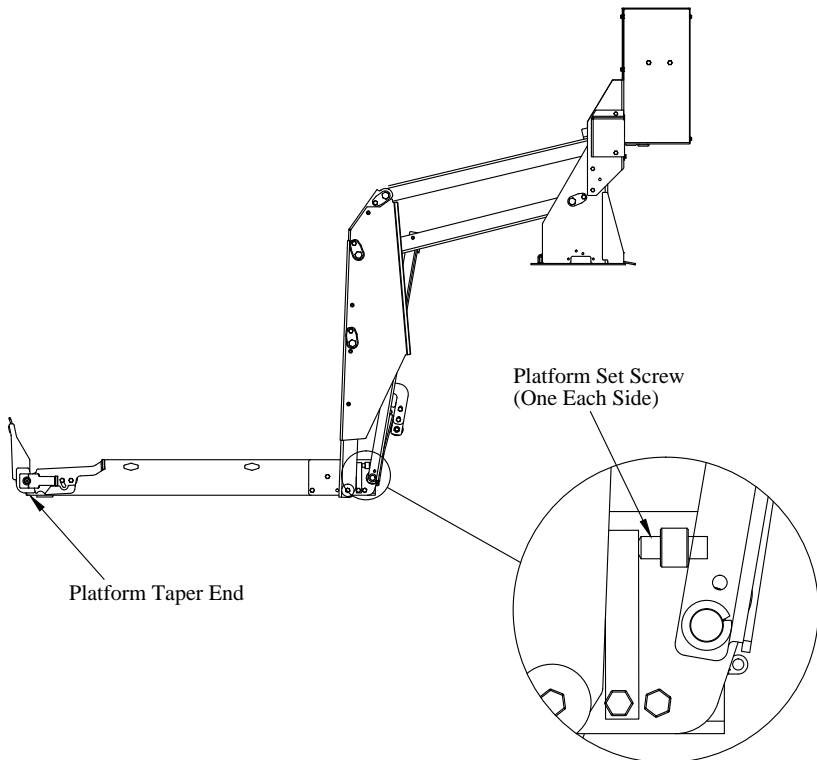

Figure 7: Platform.
3. **Adjust** the platform set screws until the platform taper end just rests on the ground (Fig. 7).